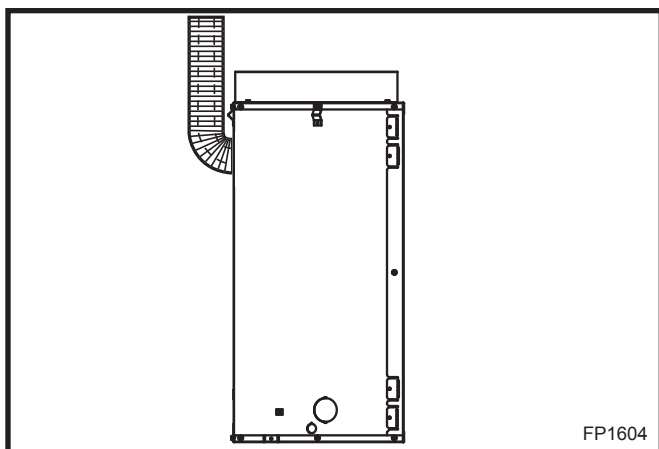

Fig. 21 Bend flex pipe up 90° as close to fireplace as possible.
6. Bend the flex pipe up 90° as close to the fireplace as possible. (Fig. 21)